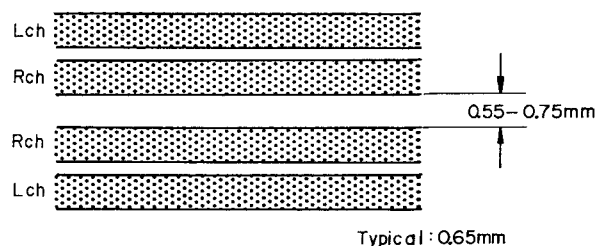

Fig. 4.20
- (j) Immerse the recorded tape in a magnetized developing solution. In turn, check to insure that the recording head tracks across the center are separated with a distance of 0.55 to 0.75 mm (typically 0.65 mm) as illustrated in Fig. 4.20.